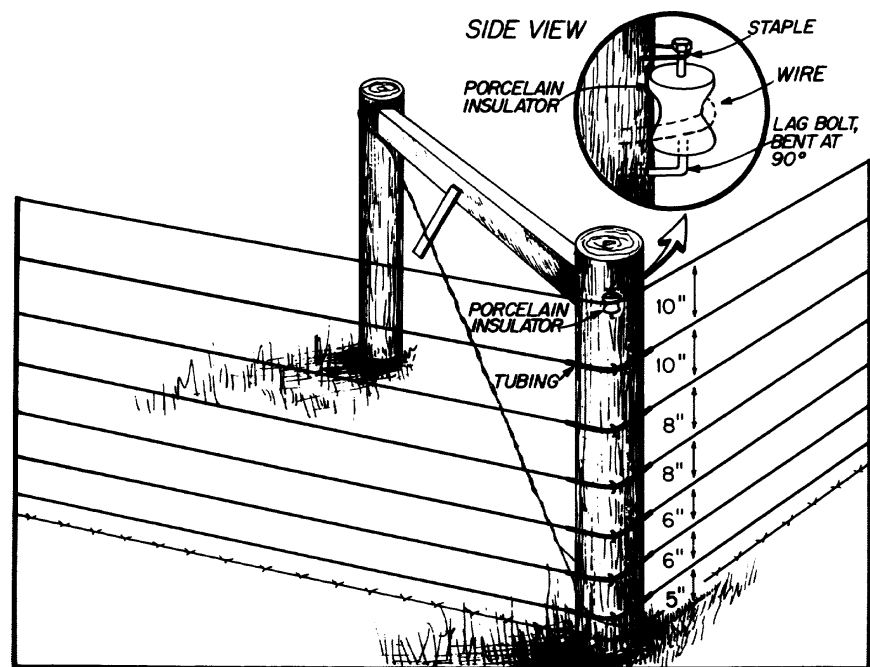

Figure 5.—Single-span strainer assembly at a corner.
assemblies, erected in the angle of the corner (Figure 5), use fewer materials but are reputed to be as strong as conventional corners.
*Corners: angle assemblies.* Angle corner assemblies are single-span assemblies placed in the angle of fence corners (Figure 5, page 5). Construct them exactly like single-span assemblies. The post at the corner should lean 2 inches away from the direction of pull.